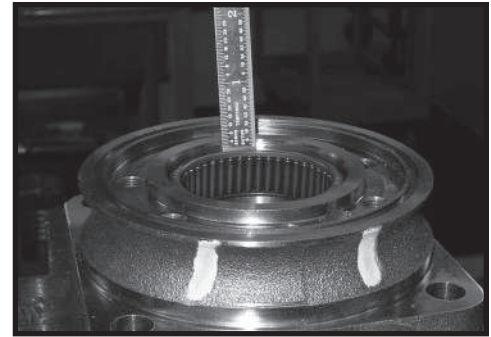

Figure 35
**CAUTION** **CAUTION:** If the bearing mandrel specified in the “Tools and Materials Required for Servicing” section is not available and alternate methods are used to press in bearing/bushing (13) and (19) the bearing/bushing depths specified must be achieved to insure adequate bearing support and correct relationship to adjacent components when assembled. SEE FIGURE 35.
**CAUTION** **CAUTION:** Because the bearing/bushings (13) and (19) have a press fit into the housing they must be discarded when removed. They must not be reused.